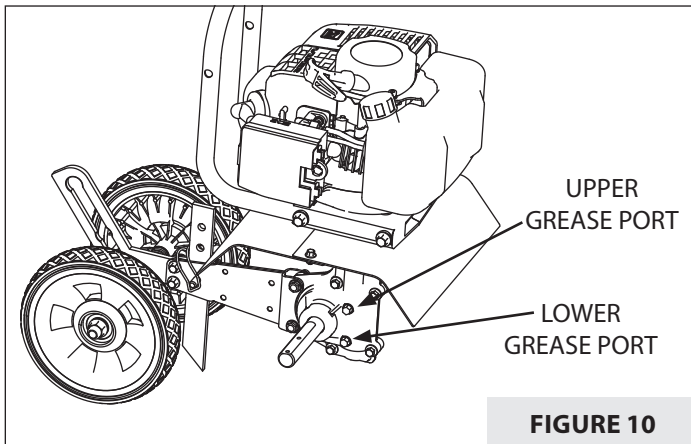

FIGURE 10
1. The transmission case has grease installed at the factory. It is recommended to check grease level once a year. Add a molythium type grease into the lower grease port only if the grease is below the level of the upper grease port. **DO NOT OVERFILL. SEE FIGURE 10.**